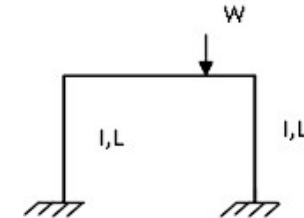

Fig. 1
- (iii) The portal frame shown in Fig. 1